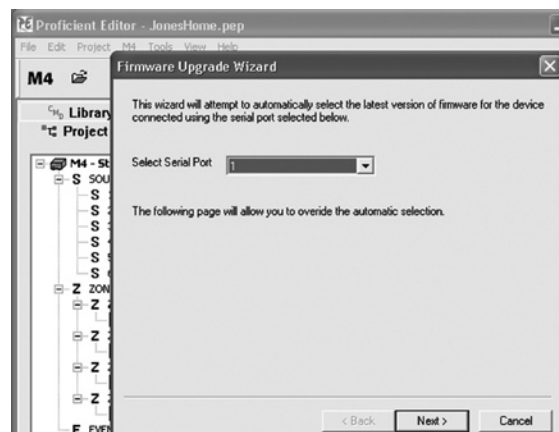

Figure 60 Firmware Upgrade Wizard
8. The **"Firmware Upgrade Wizard"** appears. Refer to Figure 60. Read the text and then click **Next**.